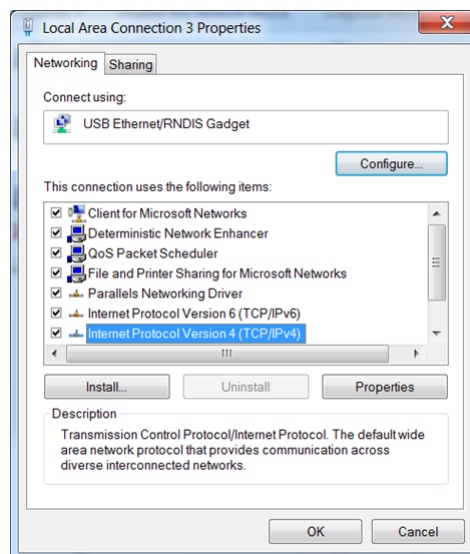

Figure 2-17. Windows 7 Local Area Connection Properties
9. In the box "This connection uses the following items" under the Networking tab, look for "Internet Protocol Version 4". Highlight the item by clicking on it, and then click "Properties" underneath the box. See Figure 2-17.